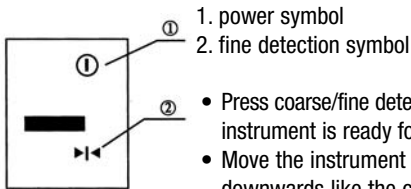

Figure 6
- When the instrument displays like Fig 6, it is at the right position.